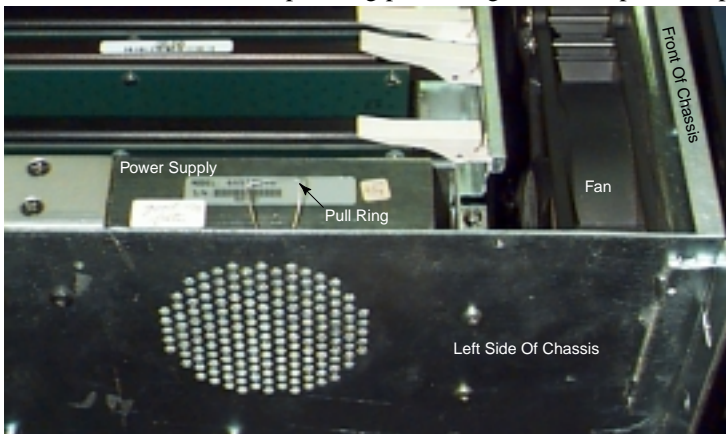
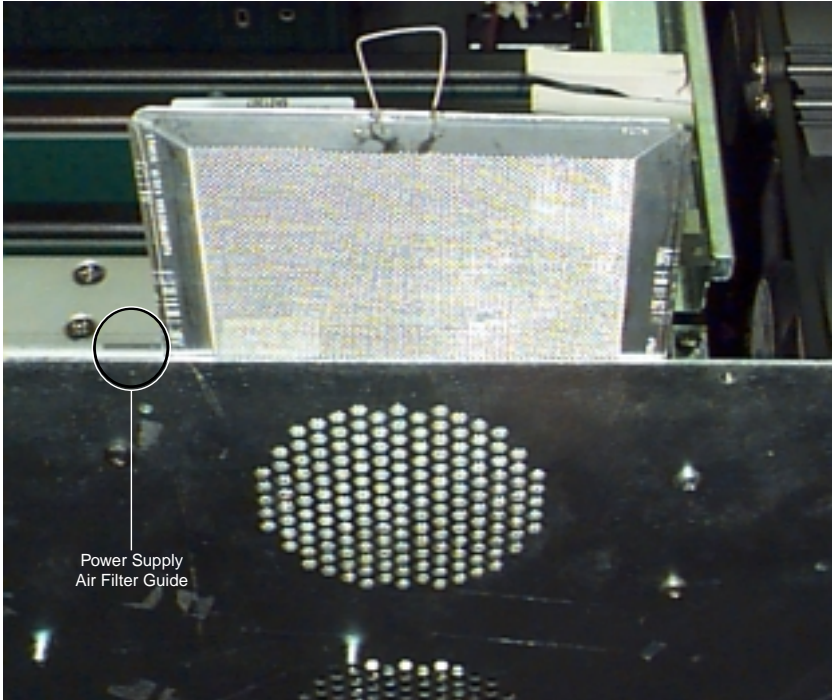

Figure 5-19. Power Supply Air Filter Pull Ring
Figure 5-20. Power Supply Air Filter Partly Removed
- [] 1. Refer to **Figure 5-19**. On the chassis' left side, note the pull ring protruding above the power supply.
- [] 2. Pull gently up on the ring and the filter slides out of the chassis, as seen in **Figure 5-20**.
- [] 3. To replace the filter, position the new one alongside the guide shown in **Figure 5-20**, and push down gently.
If you are putting in a new filter, make sure the pull ring curves away from you, as in **Figure 5-19** and **Figure 5-20**. Use only the proper replacement filter, Chyron part no. 23D0016.
The design of the Duet Keyboard is very similar to the established locations and functions of an iNFiT! keyboard. Callouts that are in italics in Figure 5-19 indicate those similarities.
A typical Duet Keyboard layout is shown in Figure 5-19. For further explanation of the functions of each key, refer to the Duet Keyboard Reference Card, Pub No. 2A02122.